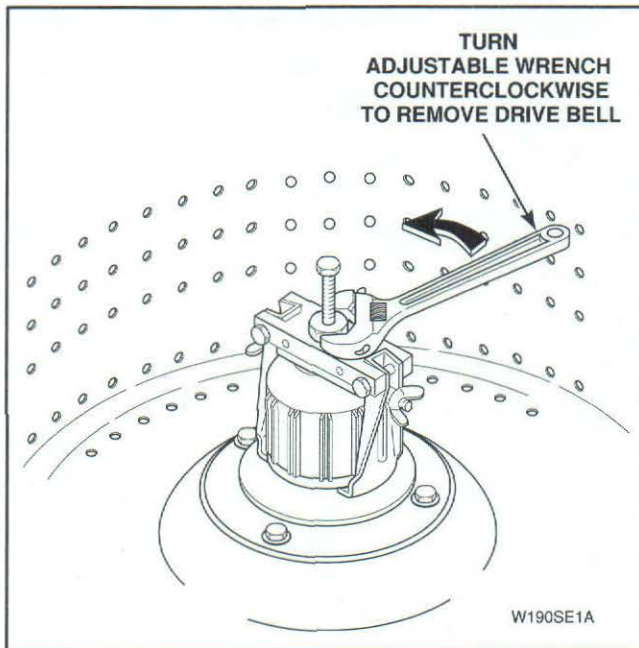

Figure 16
- i. Use an adjustable wrench, turn large nut on tool **COUNTERCLOCKWISE** to pull drive bell from transmission shaft, Figure 16.